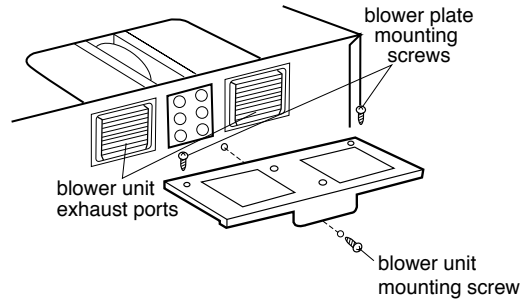

Figure 16
7. Reattach the blower plate to cabinet so the exhaust ports and blower plate opening are aligned. Attach with one blower unit mounting screw and then two blower plate mounting screws. See Figure 16.